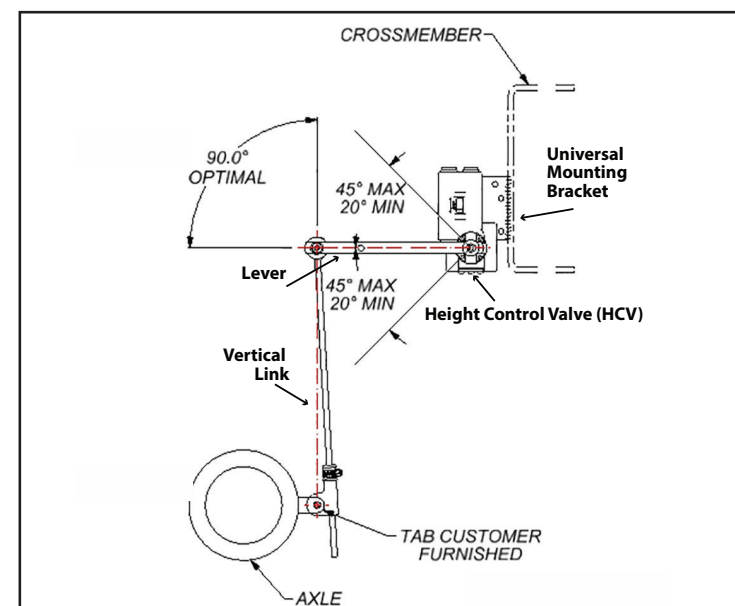

Figure 3. HCV-to-lever angles between 20- and 45-degrees provide full jounce and rebound travel.
2. Mount the height control valve (HCV) with lever arm to the vehicle frame or mounting bracket with two T-bolts (Figure 3). Torque to 60-80 in-lbs.
4. Slide vertical link up-or-down through the P-Connector until lever arm reaches desired angle (Figure 3). Tighten the band clamp on the P-Connector to hold vertical link in place. Leave approximately 1" of the rod beneath the "P" connector and cut off excess.